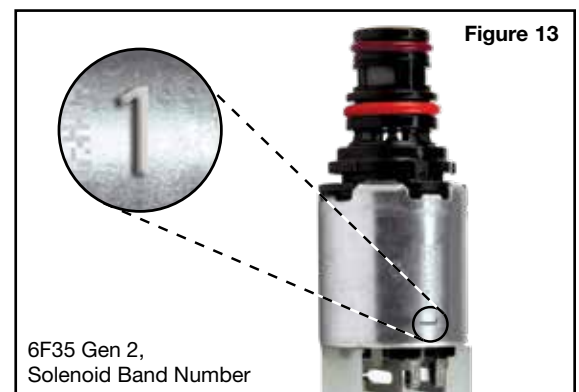

Figure 13
**NOTE:** OE checkballs often damage the separator plate (**Figure 13**), preventing proper sealing. Replace the separator plate if necessary, available through Ford (P/N DV6Z-7Z490-B) Generation 1 ONLY.